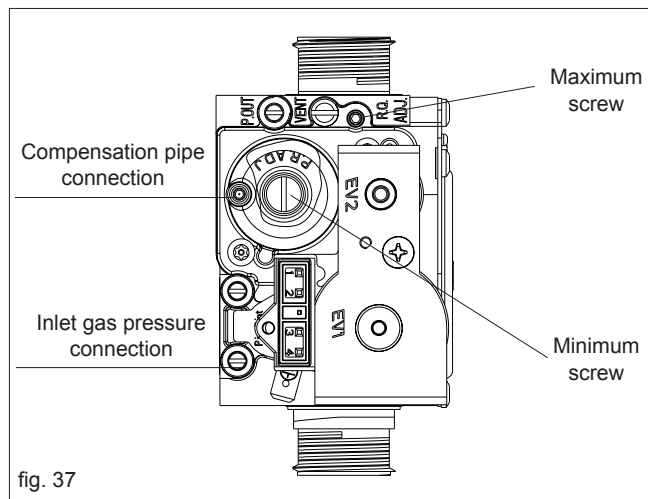

fig. 37
- using a 2.5mm Allen key, very slowly turn the maximum adjustment screw (see fig. 37) – clockwise to decrease, counter clockwise to increase – until the correct value is displayed on the CO₂ analyser (allow time for the analyser to stabilise).
- locate the minimum adjustment screw (fig. 37), using a suitable screwdriver remove the protection plug
- using a 4mm Allen key, very slowly turn the minimum adjustment screw (see fig. 37) - clockwise to increase, counter clockwise to decrease - until the correct value is displayed on the CO₂ analyser (allow time for the analyser to stabilise).